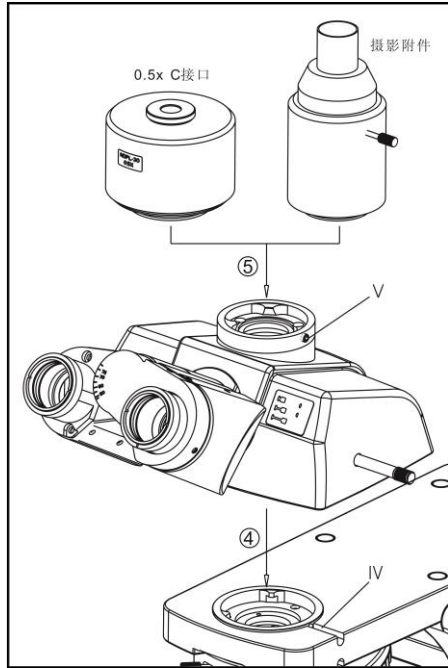

Fig 6
### 4-2-4 Install Camera Lens And Photo tube/0.5X C-mount (fig 6)
Install camera lens into the microscope groove according to the path ④ shown in the figure 6, then use hex wrench tight up the bolt shown as Ⅳ and fix the camera lens.
Accord the path of ⑤ shown in figure 6 to insert the trinocular viewing unit into the microscope head. Then use the hex wrench screw the fixed bolt shown as Ⅴ.